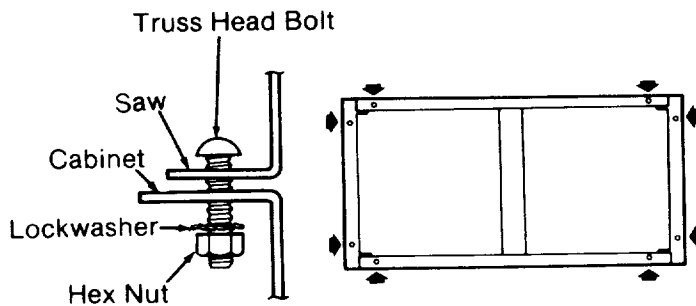

Fig. 49
2. Fasten the saw to the *cabinet* with eight truss head bolts. Put a lockwasher and hex nut on each bolt and tighten using a 7/16 inch wrench or socket. (Figure 49)